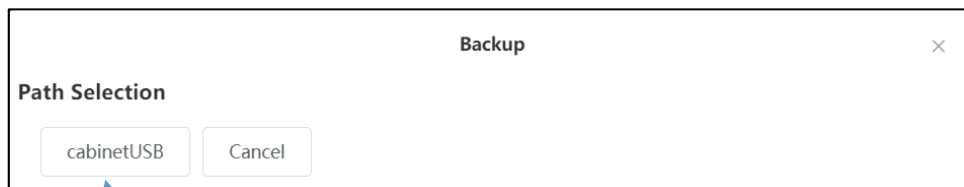

Fig. 7.2 USB Path Selection Interface
4. Select USB path and specific operating directory, as shown in Fig. 7.2 and 7.3. If necessary, create or edit folders.